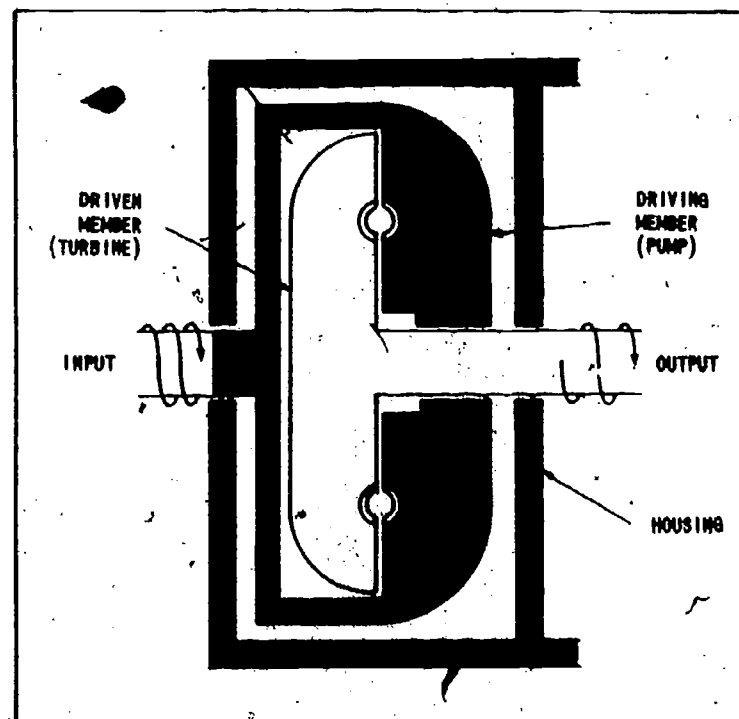

Fig 3-24. Fluid-coupling schematic.
- (1) Fluid coupling (figs 3-24 and 3-25). The smoothest and simplest method of transmitting torque is by a hydraulic coupling. It is a fluid-friction clutch with a 1 to 1 input-output torque ratio. It consists of a pump and a turbine operating within a case filled with oil. Each element (pump and turbine) has straight, flat, radial blades. As the engine turns, centrifugal force will throw the oil on the pump blades out (rotary flow) and across (vortex flow) the blades.